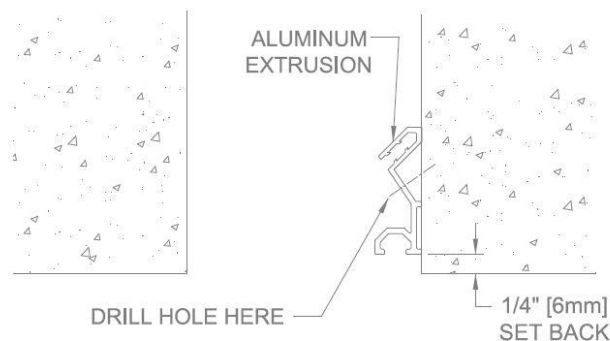

FIGURE 1
1. Position aluminum extrusion in the expansion joint and mark hole locations at 18" OC. Drill Ø3/16" holes into the extrusions at the marked locations. When attaching to a concrete wall, drill a hole into the concrete at these locations with a Ø5/32" masonry bit. Repeat on the other side. **See Figure 1.**